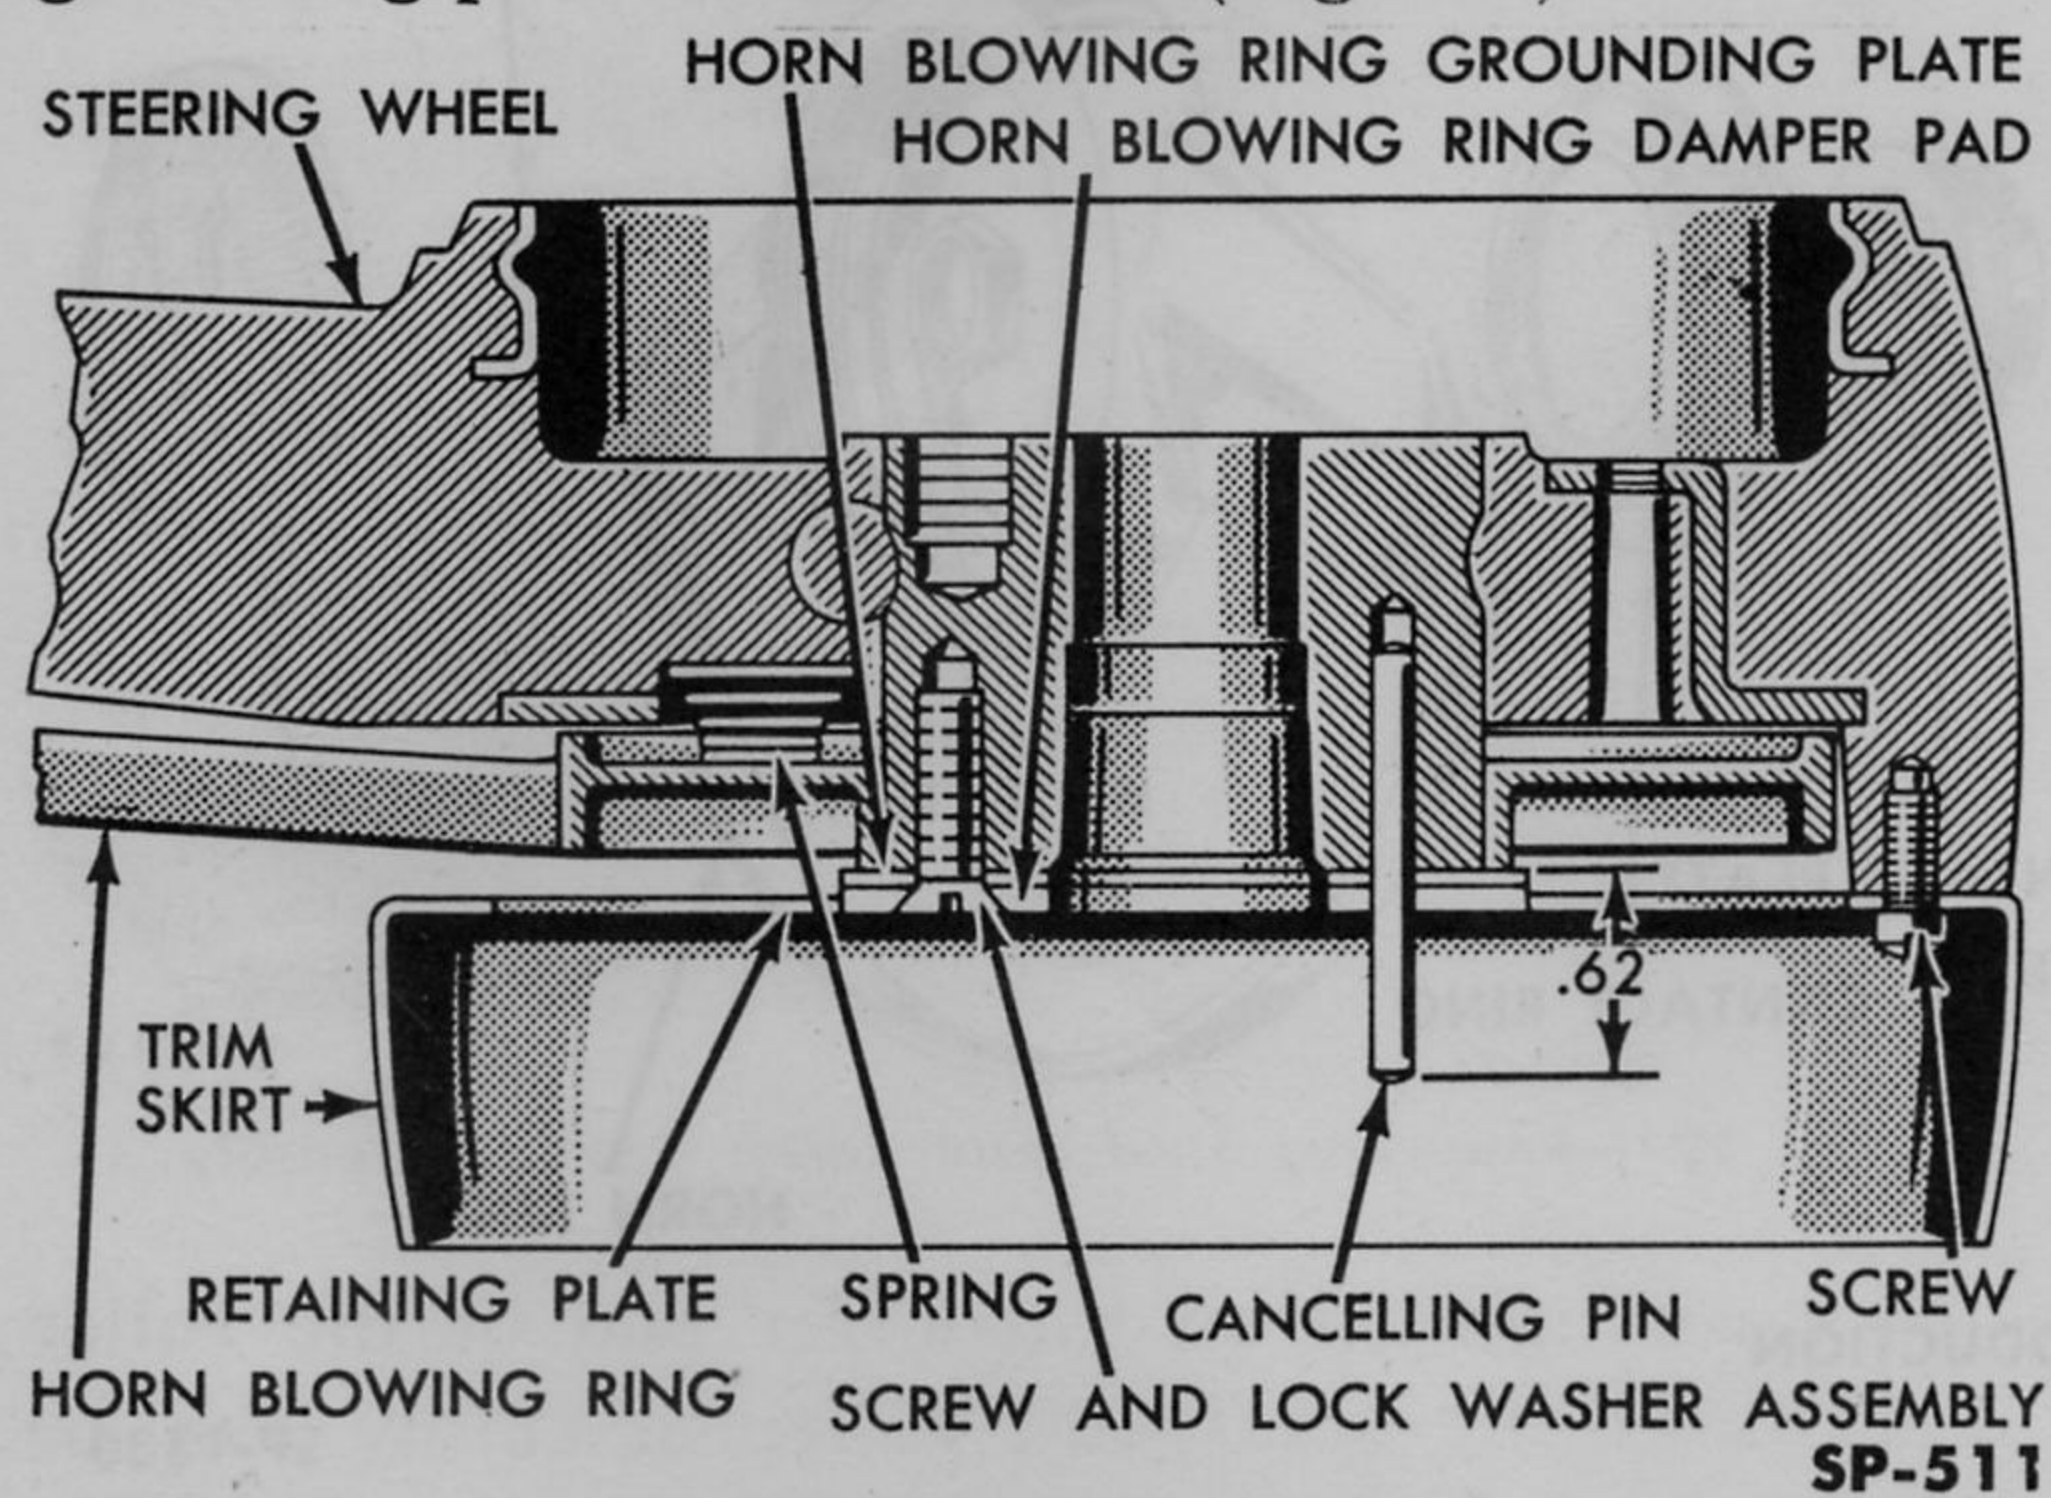

Fig. 290—Steering Wheel and Horn Ring Assy.—Sectional View—Frazer
3. Remove the steering wheel nut from the upper end of the steering column. Pull the wheel and horn ring from the serrated end of the steering column using Steering Wheel Puller KF-26 (Fig. 289). The horn ring is easily disassembled from the steering wheel by removing the screws that attach the grounding plate to the wheel (Fig. 290).
1. If the horn ring was removed, assemble it and the related attaching parts onto the wheel in their original relative positions. Be sure that the two directional signal switch cancelling pins are in place in the bottom face of the wheel hub. The pins should protrude $\frac{5}{8}$ of an inch from the face of the hub (Fig. 290).